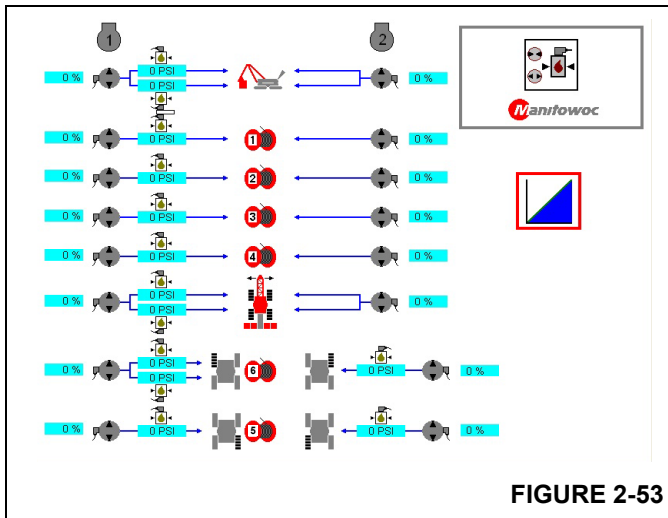

FIGURE 2-53
8. Then press  or  until the High Pressure Test icon appears as shown (Figure 2-53).